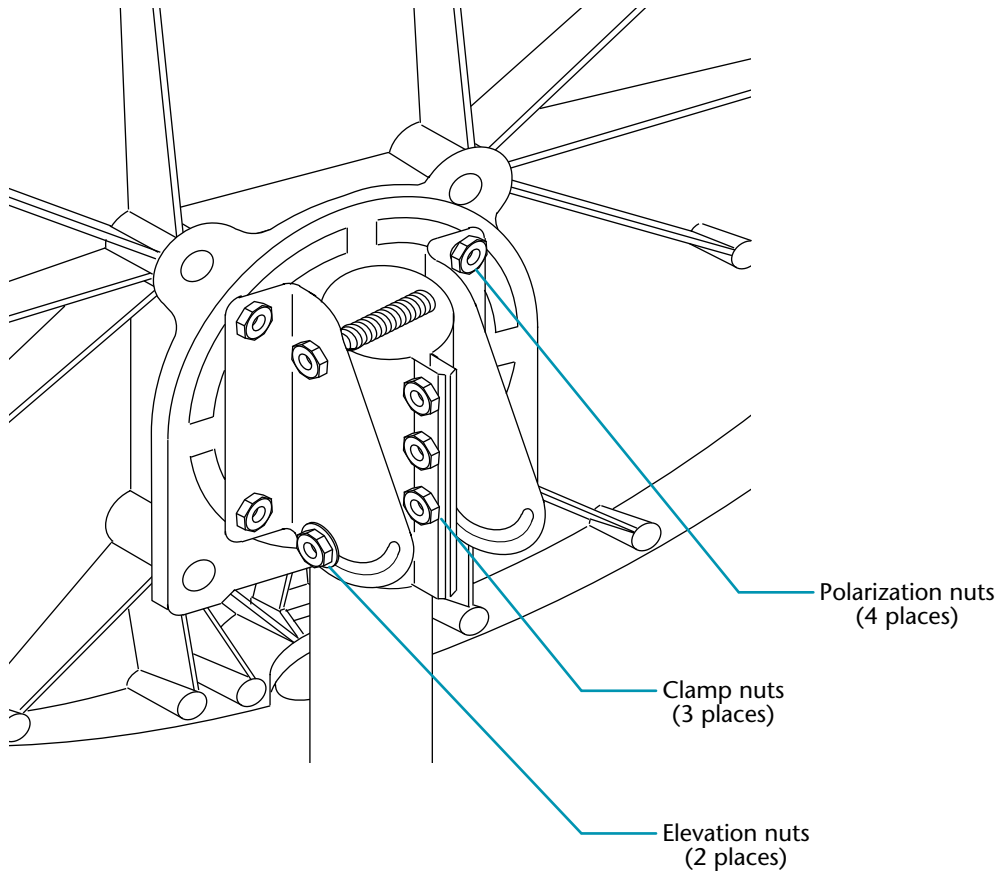

Figure 5-1. Reflector alignment hardware
1. Loosen the four polarization nuts (see figure 5-1) so the antenna can be turned with slight pressure, (a loose, wobbly reflector affects proper pointing of the antenna).
2. Rotate the antenna reflector until the appropriate polarization value on the polarization scale is aligned with the polarization reference mark (see figure 5-1). (In our example the setting would be 25 degrees). Tighten the polarization nuts.
3. Loosen the clamp bolts on the AZ/EL cap mount assembly that secure it to the mast tube (see figure 5-1). Loosen these bolts just enough to allow the antenna to move smoothly on the mast.